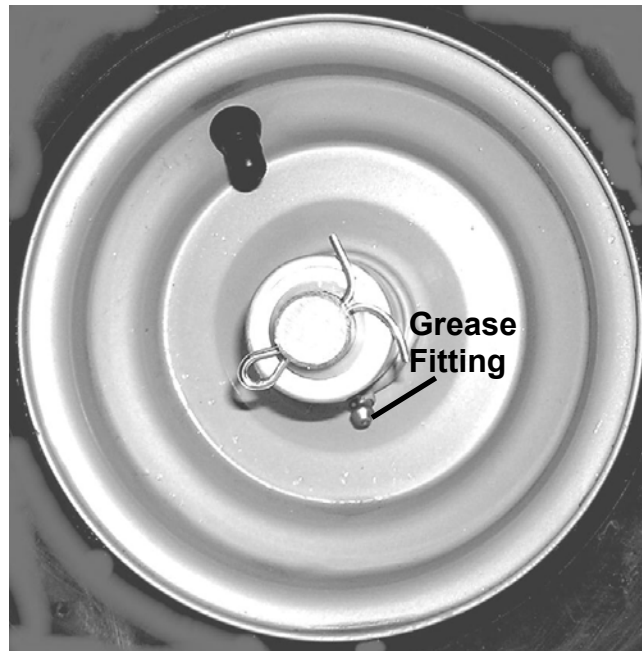

Figure 38
1. Lubricate each wheel with #2 Lithium grease using a grease gun on the fitting (*Figure 38*).